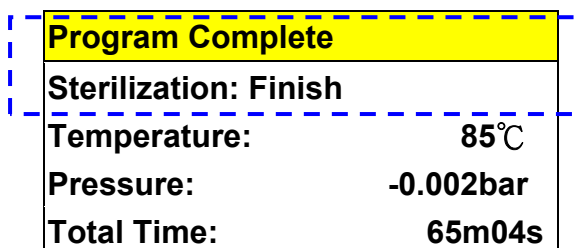

Figure 112- Program Complete
- G. On completion, the buzzer will sound and the Program Complete message is displayed as shown in Figure 112.